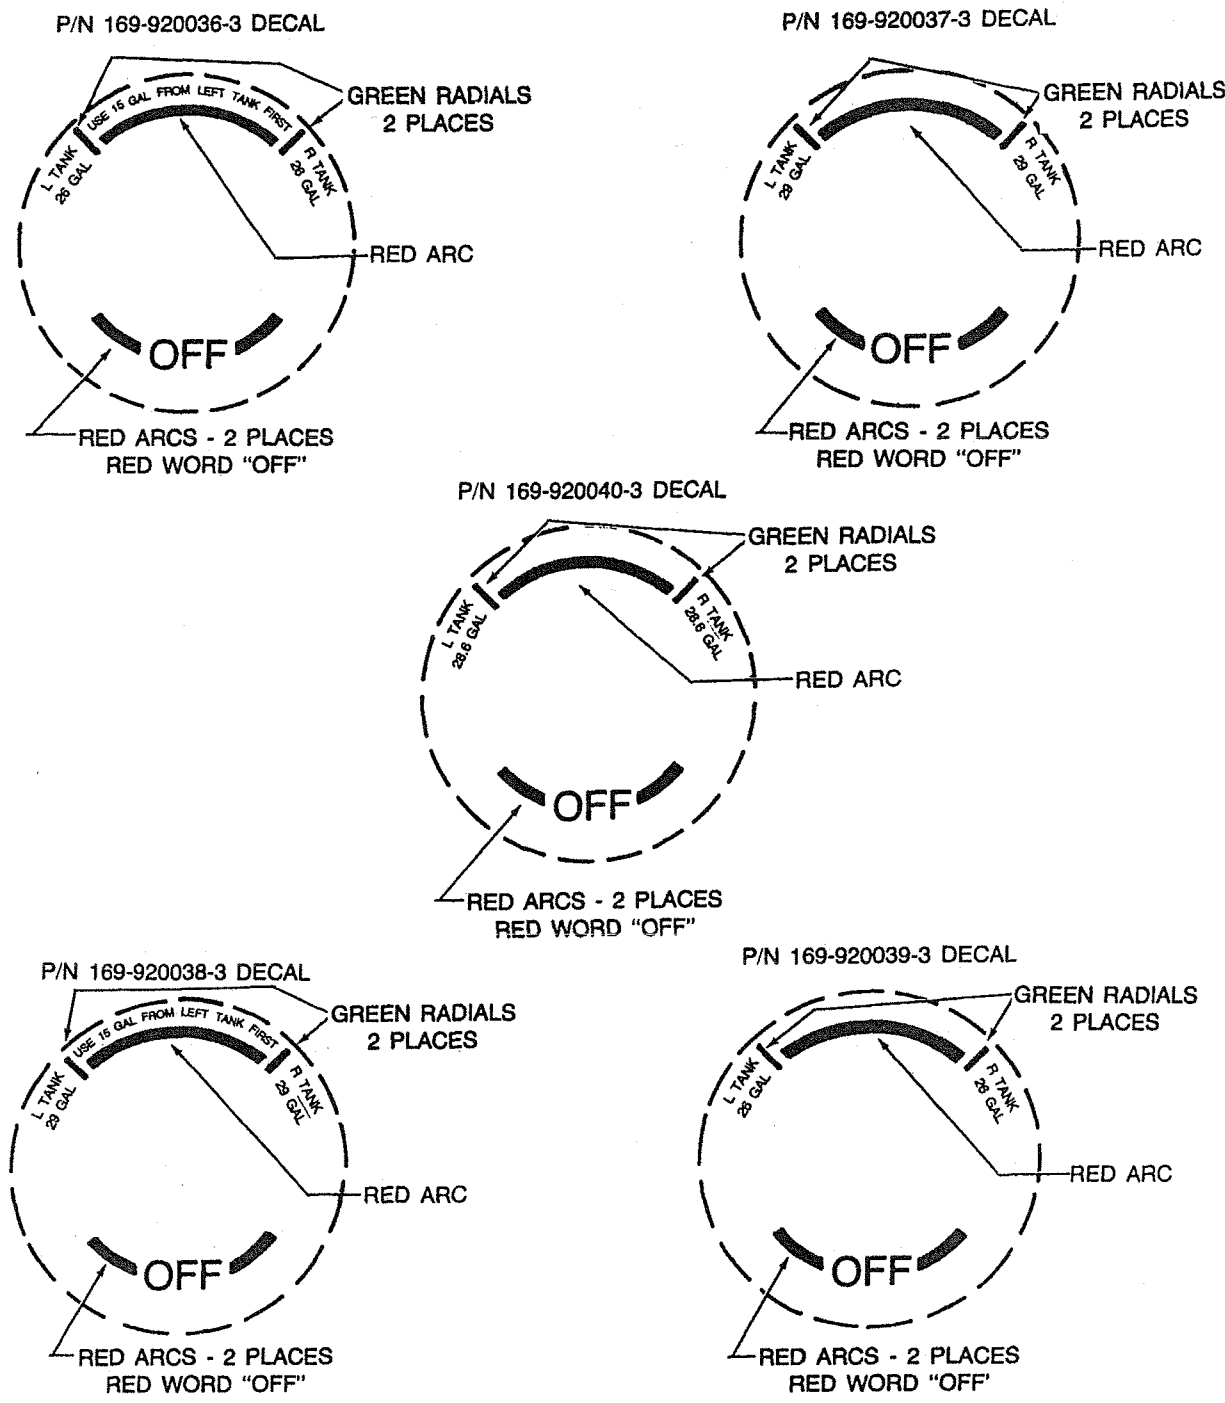

Figure 1
3. Install the appropriate pressure sensitive decal, as determined from Figure 1 and from the MATERIAL section, to the fuel selector valve guard.
2. Inspect the fuel selector valve guard for the correct placard. Placard instructions, if any, and usable fuel amounts should match one of the decals shown in Figure 1. Refer to MATERIAL section.